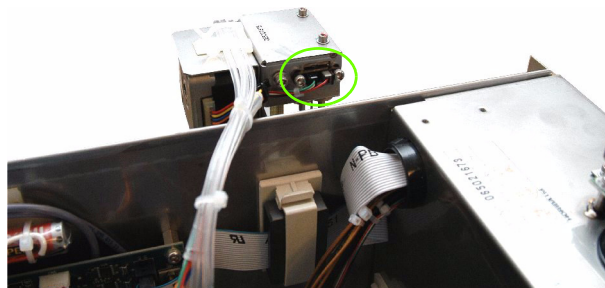

Fig.4: Needle home cell
- ◆ If the value is out of those limits, a «-» will be displayed in WBC window.. In this case, the needle home detection sensor position must be adjusted (See "Fig.4: Needle home cell, page 3"):